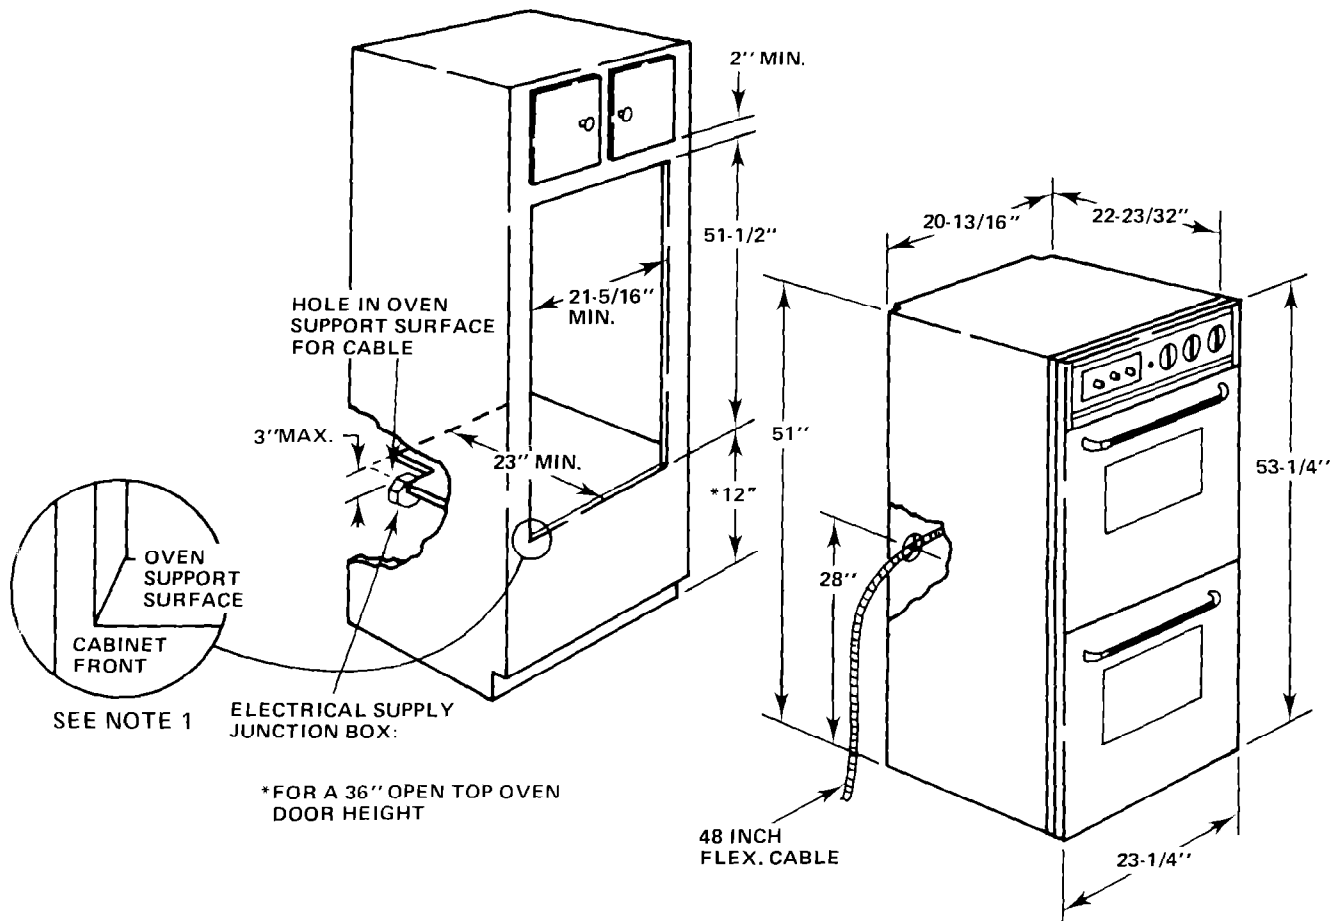

FIGURE 1 – Rough-In Dimensions
Refer to Figure 1 for the dimensions of the oven and the space necessary to receive the oven. The oven support surface may be solid plywood or similar material but the contact surface must be level from side to side and from front to rear. This surface is  $2\frac{3}{4}$ " below the open door height.
- B. The appliance should be connected to the fused disconnect (or circuit breaker) box through flexible armored or non-metallic sheathed cable. The flexible armored cable extending from the appliance should be connected directly to the junction box. The junction box should be located as shown in Figure 1 so that as much slack as possible remains in the cable between the box and the appliance so that it can be moved if servicing is ever necessary.